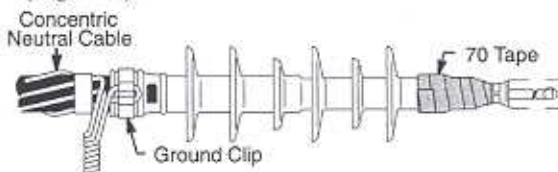

Figure 8
5. Install ground clip and Scotch 70 tape top seal (Figure 8).